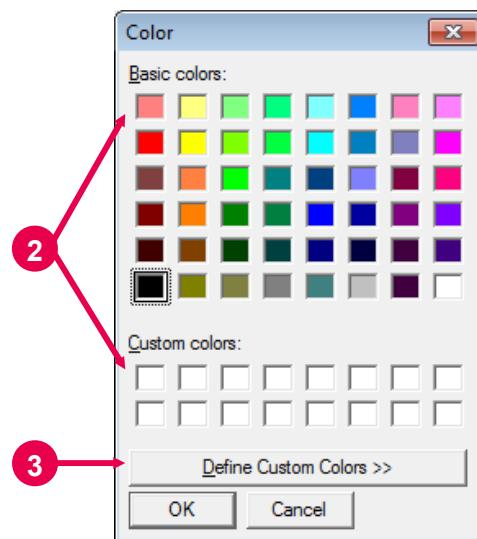

Fig. 1-67 Setting of Color
(1) Click **Select color....**
- A window as in Fig. 1-67 will appear.